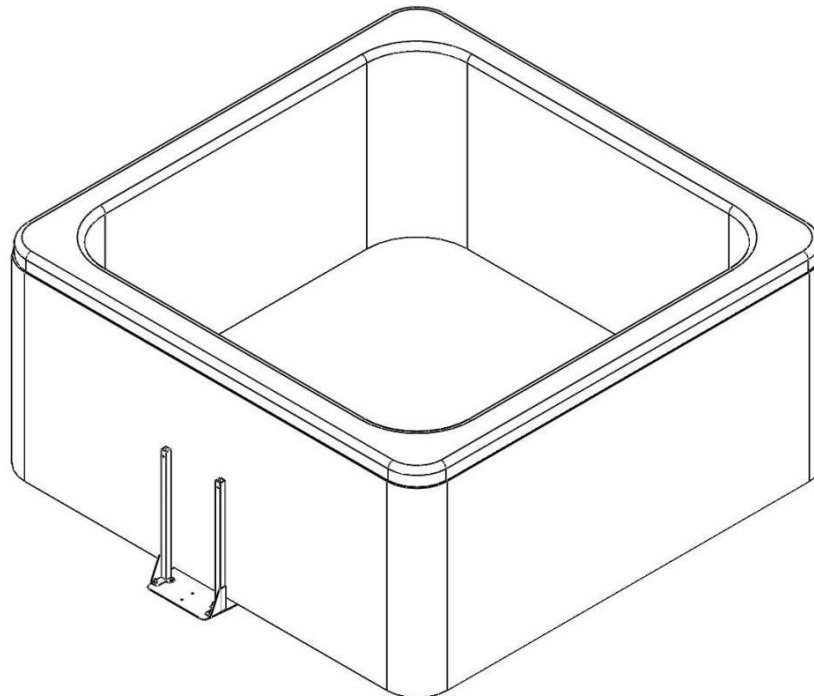

Figure 3
3. Make sure the spa is empty and slide the Base Plate/Support Leg assembly under the center of the back of the spa cabinet. This will be the side the spa cover will be stored behind. Ensure the ccFF Base Plate sits flat on the ground, with no overhang off the slab or deck. See Fig 3.